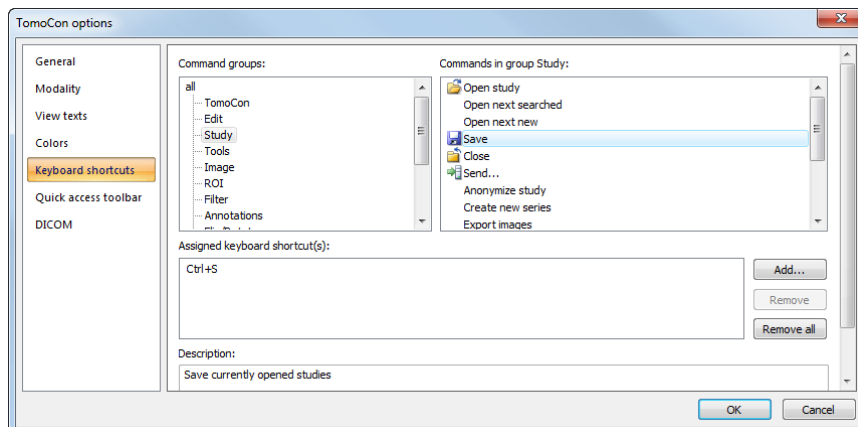

Figure 62 – Keyboard shortcuts page in TomoCon options dialog
TomoCon allows you to define your own shortcuts using keyboard shortcuts management in the well-arranged **Keyboard shortcuts** page in the **TomoCon options** dialog (see Figure 62).
1. Find the command group in the list on the left side of the dialog (see Figure 62), into which the shortcut (to be removed) belongs.